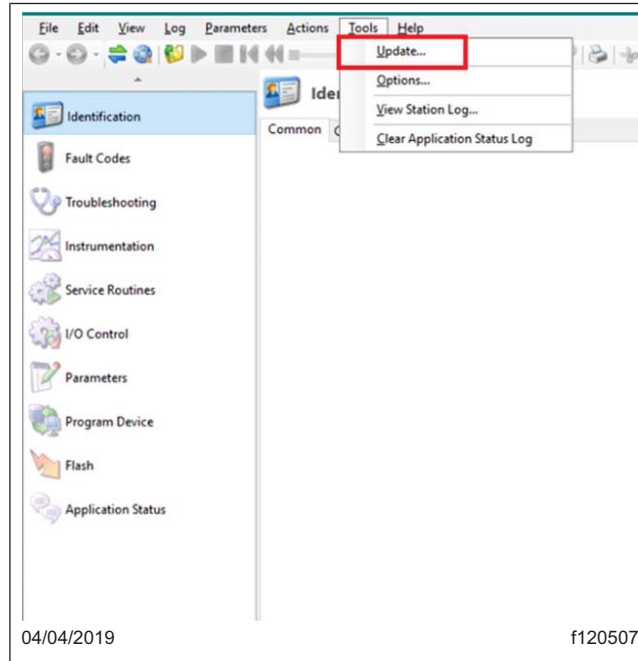

Fig. 1, Updating DiagnosticLink to the Latest Version
2. Connect the vehicle to DiagnosticLink. Make sure that DiagnosticLink is updated to the latest version, 8.10, or newer. To update DiagnosticLink, select "Update" from the dropdown menu under "Tools." See Fig. 1.